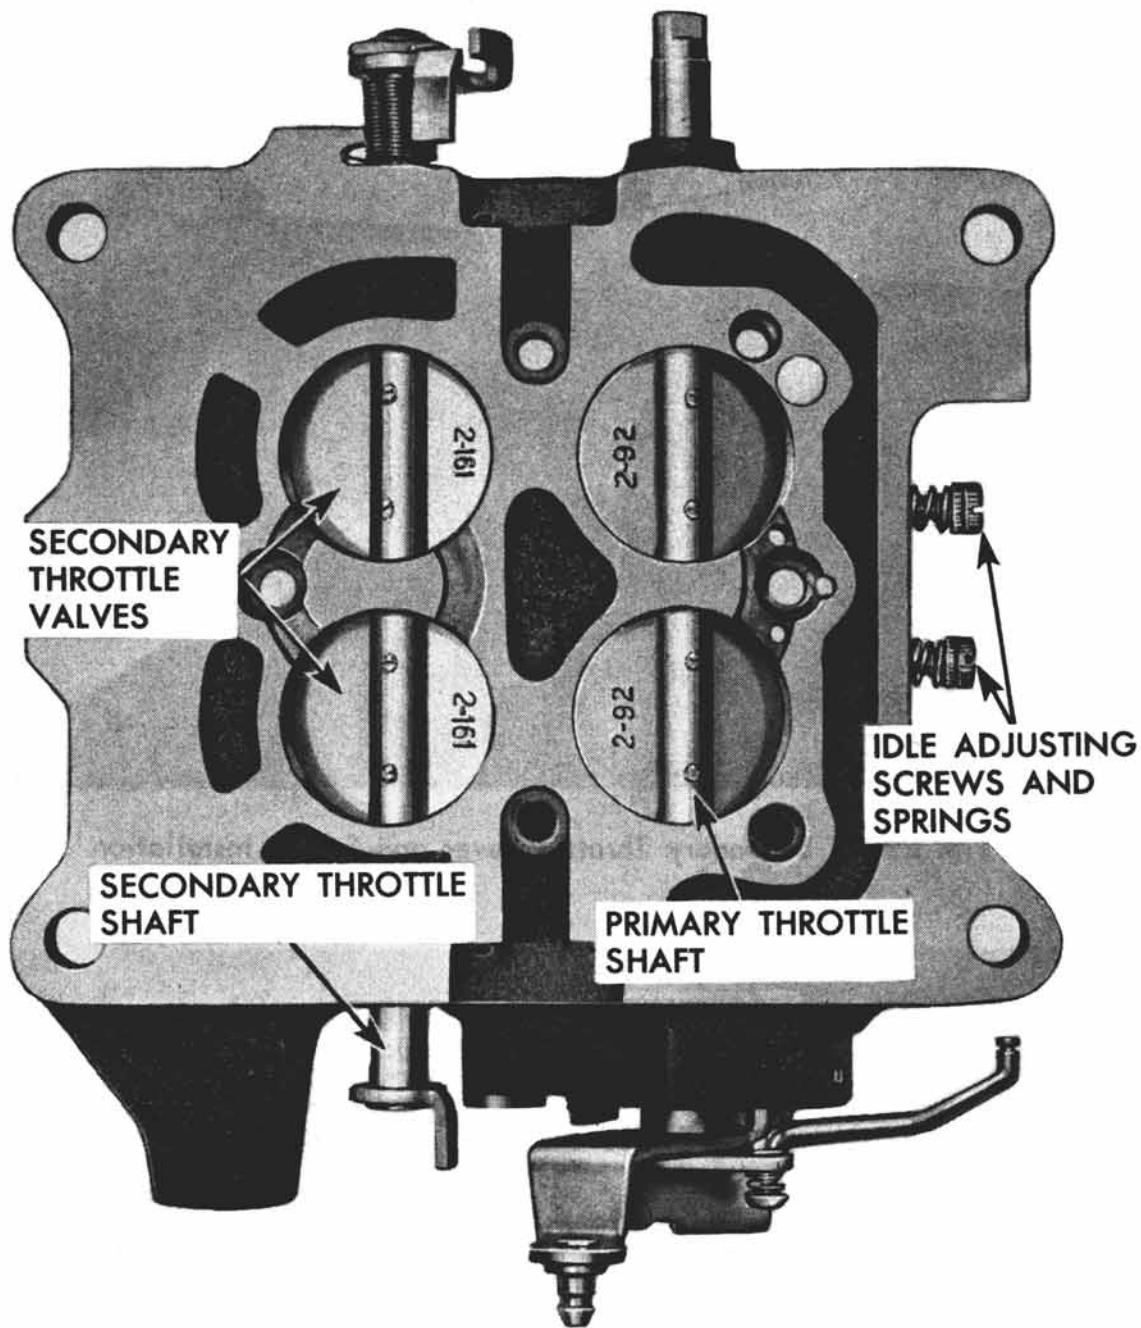

Fig. 28-C Position of Throttle Valves
1. Install the primary and secondary throttle shafts as illustrated in Fig. 28-C.
2. Position primary throttle valve (Fig. 28-C) with the stamped number "2-92" facing the manifold side and toward the center of the throttle flange. Cant the shaft and valves toward the center of the flange until the throttle valves seat fully and install new throttle valve screws.